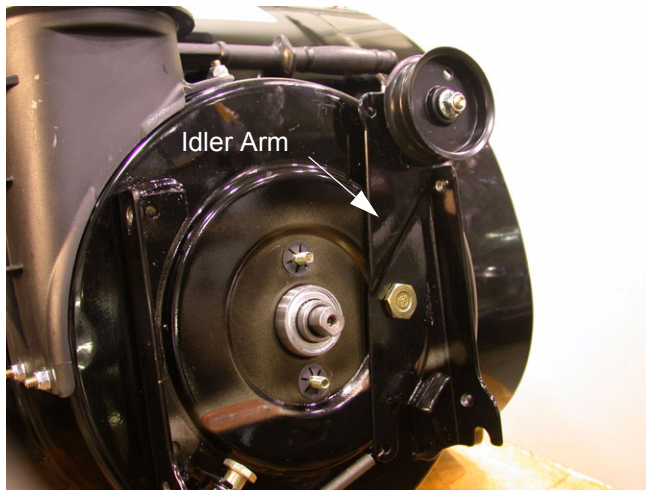

Figure 55
- 20.4. Using a 9/16" socket on a long extension and a 15/16" socket on a 1/2" socket wrench, remove the nut and shoulder screw attaching the idler to the auger housing. See Figure 55.